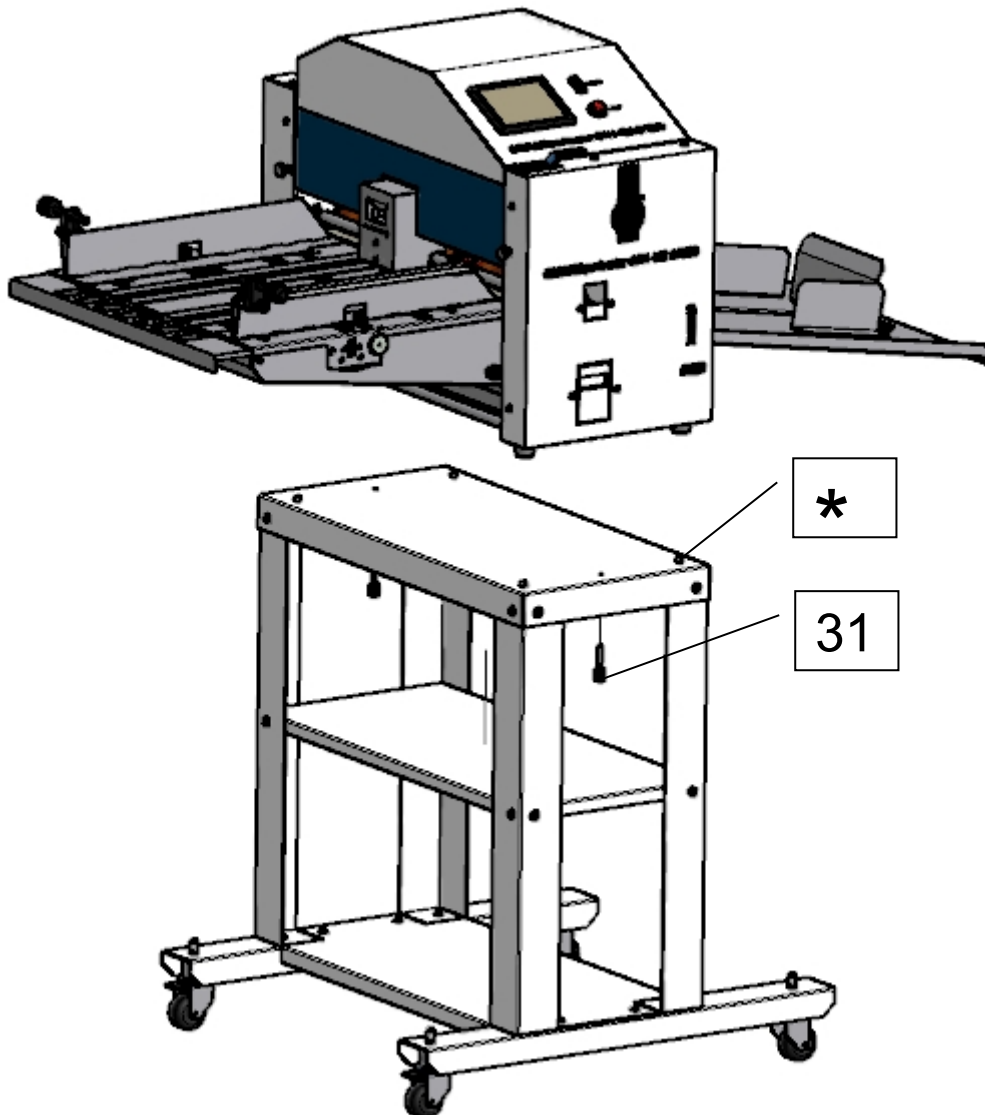

Fig. 5: Machine installation on the table
- 31 – Bolts for locking the machine on the table (fig. 5)